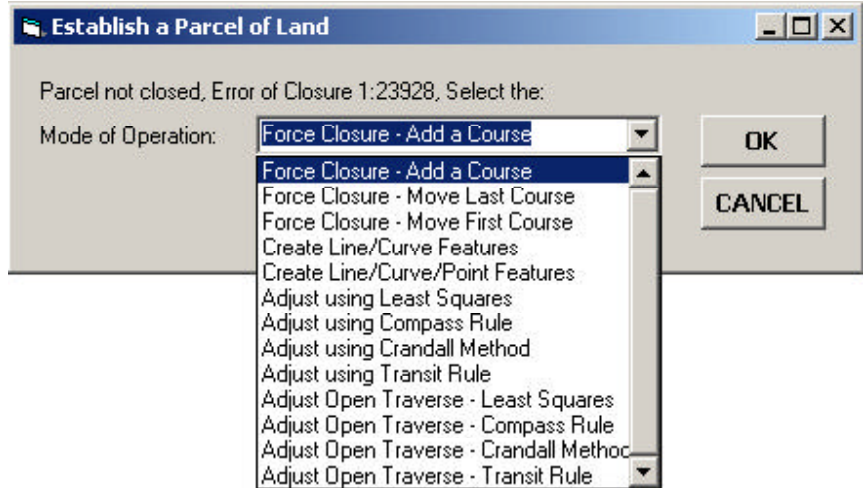

Figure 14
- **9b** Click at the **OK** button to display the dialog box of Figure 14 .